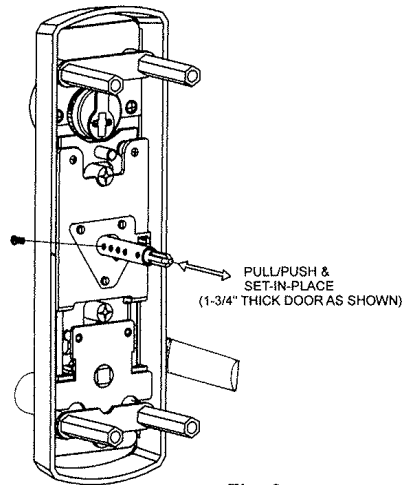
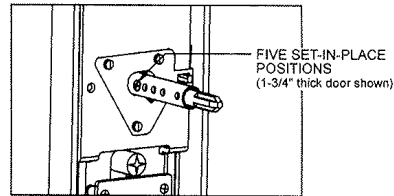

Fig. 8
Fig. 9
1. The trim spindle is a telescopic actuating shaft which is preset at factory for a 1-3/4" thick door use. (See Fig. 8.) There are 5 set-in-place positions for the following door /shim thickness: 1-3/4", 2", 2-1/4", 2-1/2", and 3". (See Fig. 9.) For thicker door applications, pull out the center crosshair shaft then set it at appropriate position by a setting screws. (See Fig. 10.)